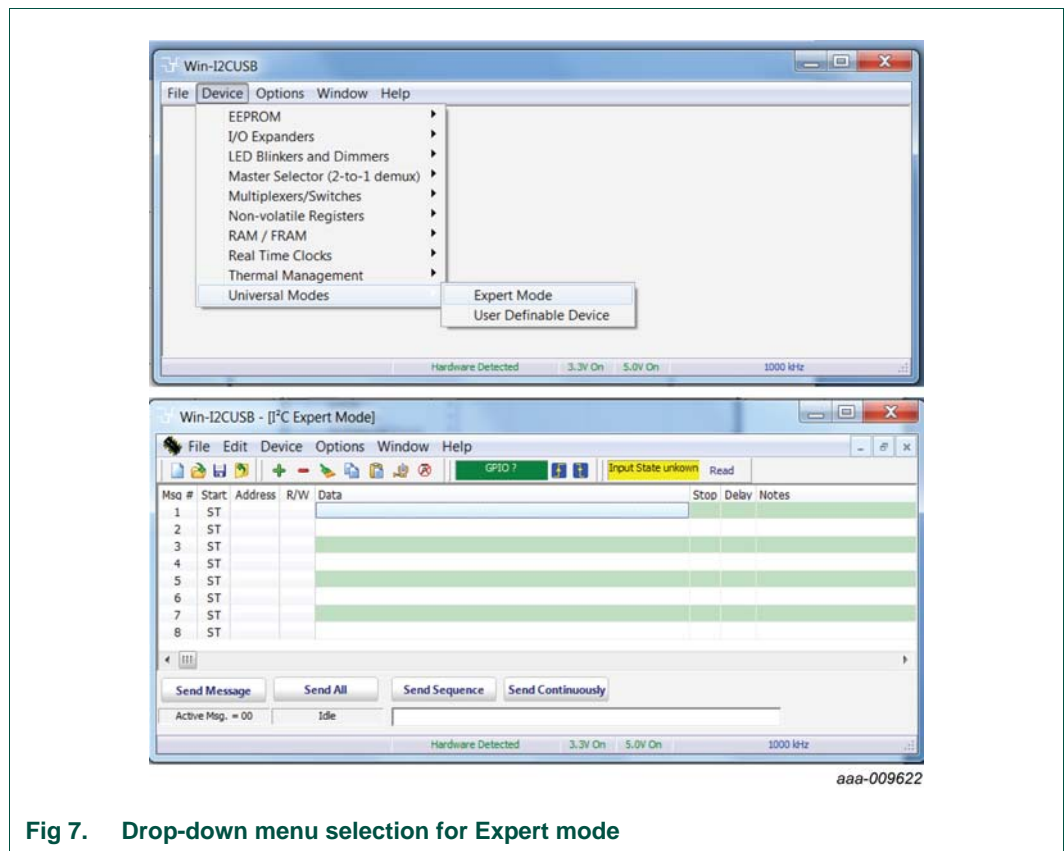

Fig 7. Drop-down menu selection for Expert mode
The PCA9955A/B is controlled by Win-I2CUSB GUI in Expert mode, as shown in Figure 7.
software. As shown in Figure 7, when the demonstration board hardware is correctly connected to the USB port and the computer recognizes it, the message 'Hardware Detected' is displayed on the bottom of the window.
1. From the 'Device' drop-down menus select 'Universal Modes', and from the subsequent drop-down menu select 'Expert Mode' as shown in Figure 7.